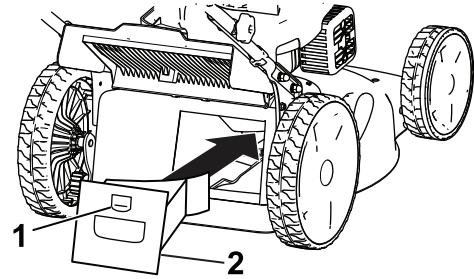

Figure 17
1. Raise and hold up the rear door (Figure 17).
2. Install the mulching plug into the housing and lock the plug into the opening in the housing (Figure 17).